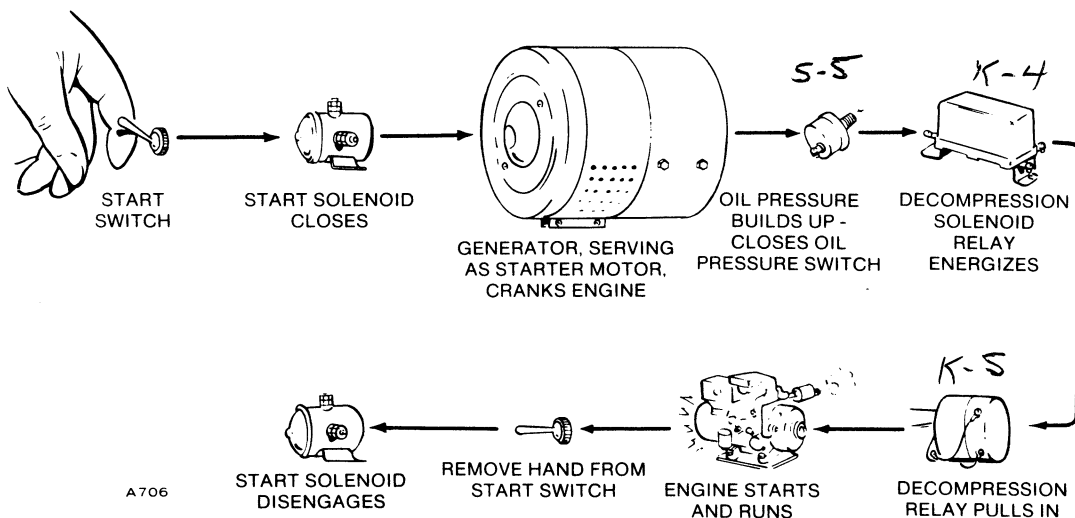

FIGURE 14. STARTING CYCLE
2. Push start-stop switch to its START position (Figure 14).